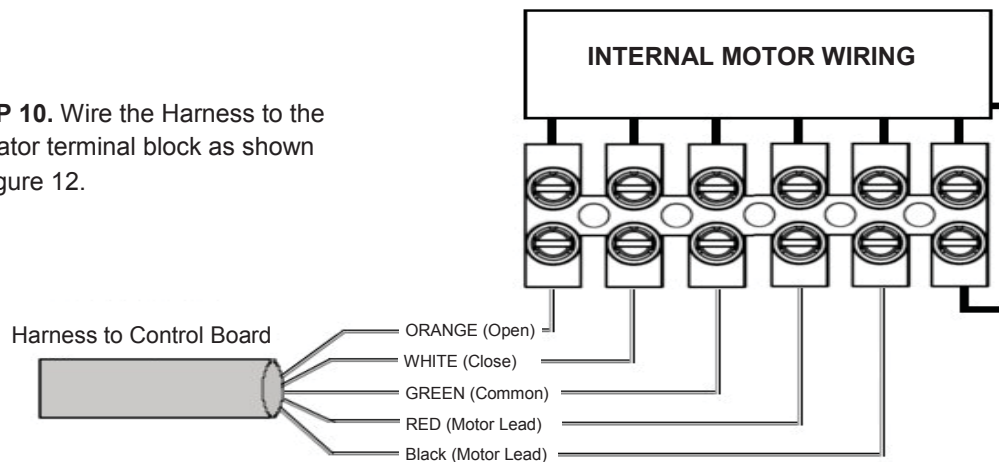

Figure 12: 3500 Terminal Block Wiring
**STEP 10.** Wire the Harness to the operator terminal block as shown in Figure 12.